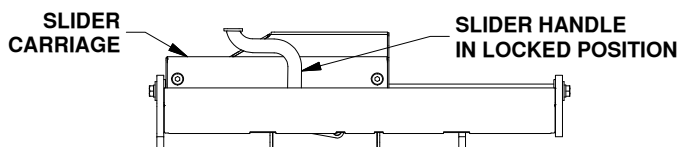

FIGURE A1: View of driver side of Slider Base.
**⚠ WARNING:** Whenever the slider base is being moved, the slider handle must be in the locked position, and the carriage must be unable to slide, see figure A1. Failure to ensure that the handle is in the locked position can lead to property damage, or serious injury.